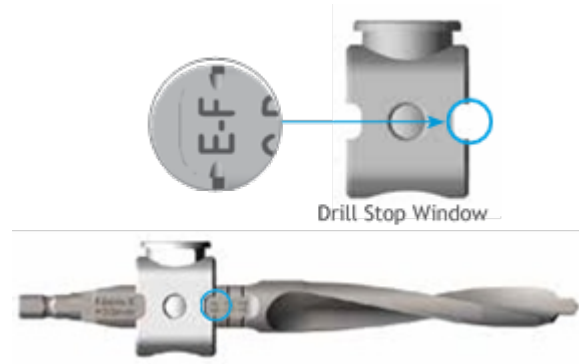

Figure 19
2. Confirm that the correct size is displayed in the cemented tibial drill stop collar window (**Figure 19**) and that the cemented tibial drill stop collar is locked on the Persona Cemented Tibial Drill, 15.7 mm or Canary Medical Cemented Tibia Drill Bit 15.7 mm Dia. x 58 mm.